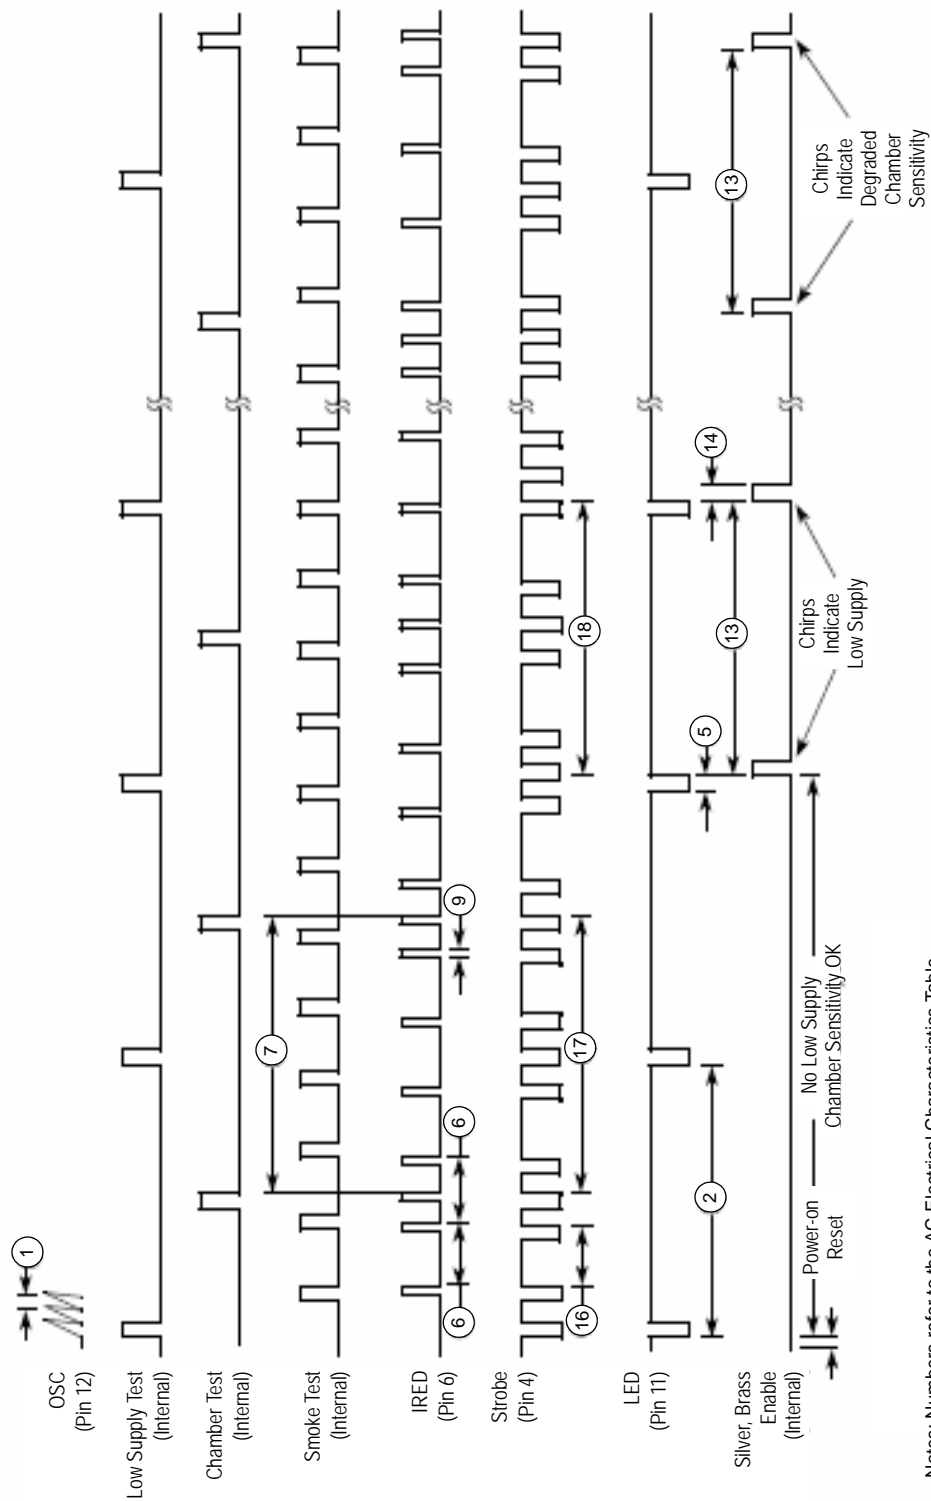

Figure 3. Typical Standby Timing Diagram MC146010 Device
\*  $T_A = 25^\circ\text{C}$  Only**Table 3. AC Electrical Characteristics** (Refer to Timing Diagram Figure 3 and Figure 4.  $T_A = 25^\circ\text{C}$ ,  $V_{DD} = 9.0\text{ V}$ , Component Values from Figure 5.)
**Table 3. AC Electrical Characteristics** (Refer to Timing Diagram Figure 3 and Figure 4.  $T_A = 25^\circ\text{C}$ ,  $V_{DD} = 9.0\text{ V}$ , Component Values from Figure 5.) (continued)
The Detect input must be ac/dc decoupled from all other signals,  $V_{DD}$  and  $V_{SS}$ . Lead length and/or foil traces to this pin must be minimized also. See Figure 3.